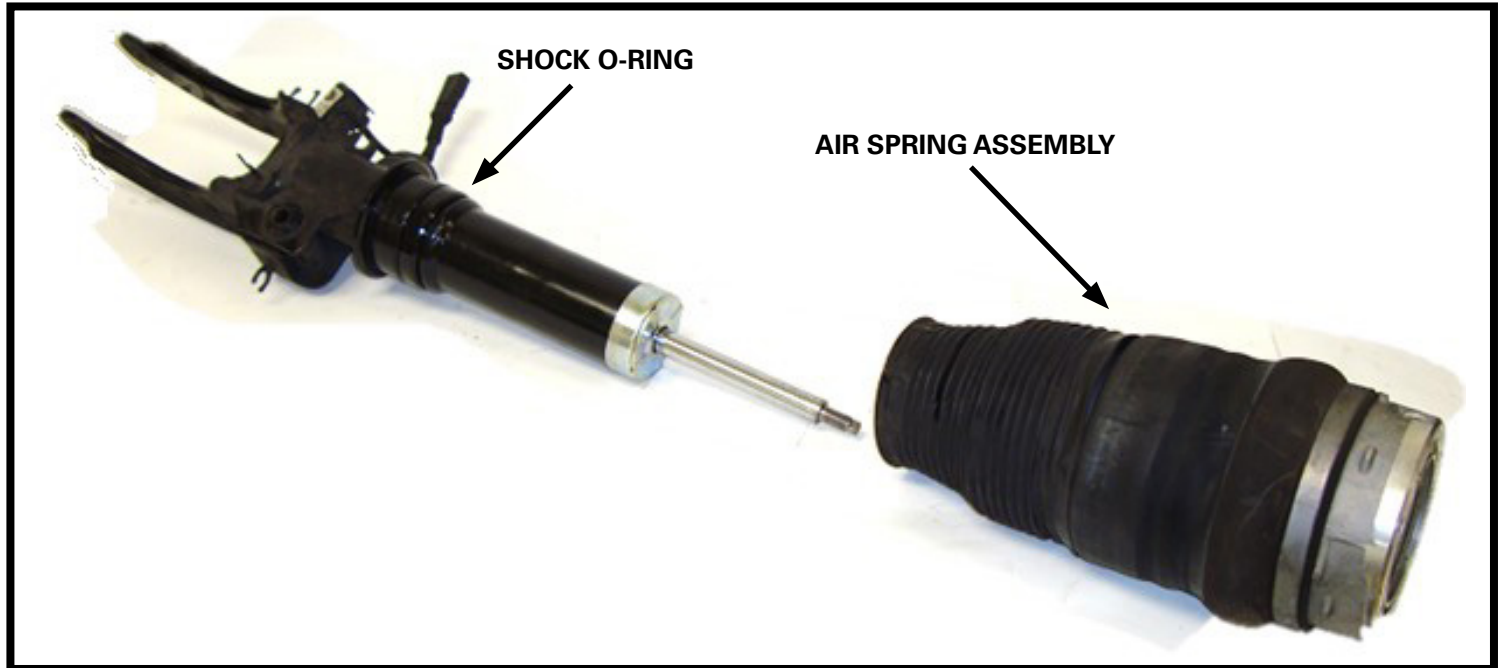

FIGURE 20-4
4. REMOVE AIR SPRING ASSEMBLY FROM THE SHOCK. REMOVE THE LOWER SHOCK O-RING AND DISCARD. (FIGURE 20-4)